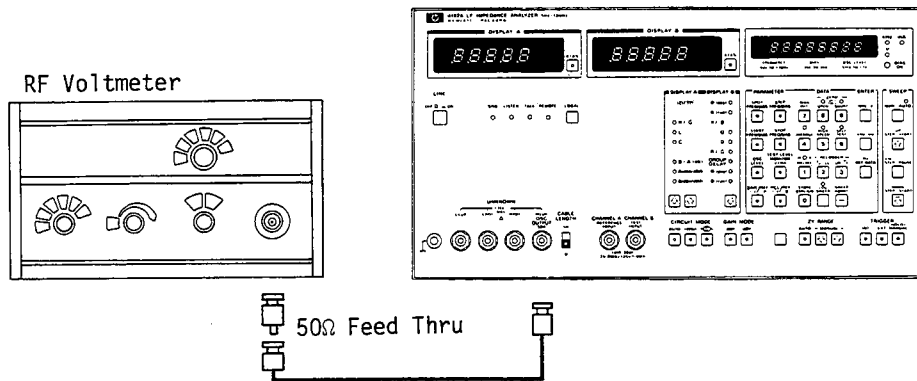

Figure 5-8. A12 OSC Level Adjustment Setup.
- c. Connect the 50Ω termination to the OSC OUTPUT 50Ω connector on the 4192A; connect the INPUT of the 3403C to the 50Ω termination using the BNC-to-BNC cable as shown in Figure 5-8.